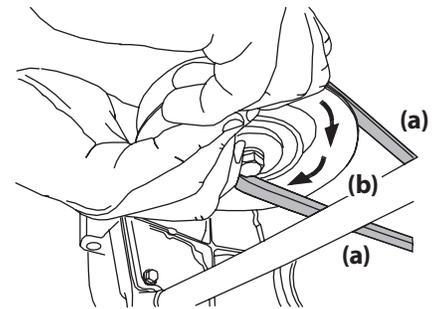

Figure 4-15
- d. While still holding the PTO belt (a) downward, continue turning the PTO pulley (b) until the PTO belt (a) is rolled off the PTO pulley (b). Refer to Figure 4-15.
- Pull the right side of the PTO belt rearward and place the narrow V-side of the PTO belt into the PTO pulley. See Figure 4-15.
- While holding the PTO belt and PTO pulley together, rotate the PTO pulley to the left (see Figure 4-15). Continue holding and rotating the PTO pulley and PTO belt until the PTO belt is fully rolled into the PTO pulley.